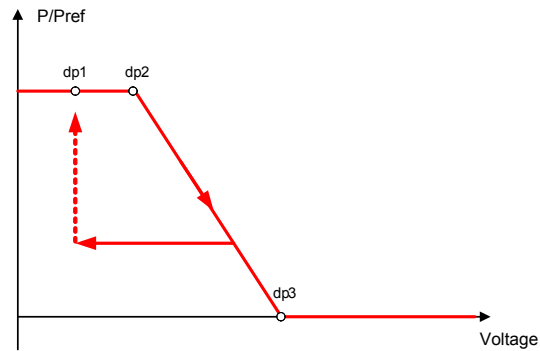

Fig. 73: P(U) example characteristic with hysteresis and a deactivation threshold lower than the activation threshold.
If the deactivation threshold is below the activation threshold, then the P(U) characteristic curve can be configured with active hysteresis [See figure 73] [► Page 74].